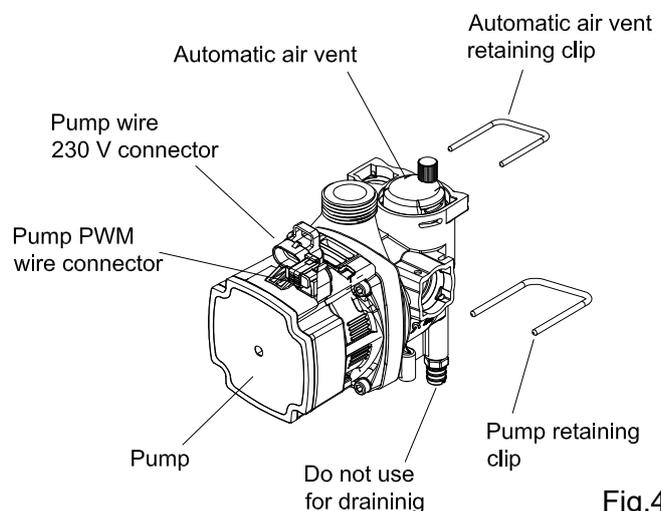

Fig.47
Remove diverter valve motor switch, to allow access and unscrew the C.H.diverter valve (fig.47).
8.15 TO REMOVE/REPLACE PUMP (Fig.47)
8.16 TO REMOVE/REPLACE AUTOMATIC AIR VENT (Fig. 47)
8.17 TO REMOVE/REPLACE SAFETY RELIEF VALVE (Fig. 47)
8.18 TO REMOVE/REPLACE D.H.W. SENSOR (Fig. 47)